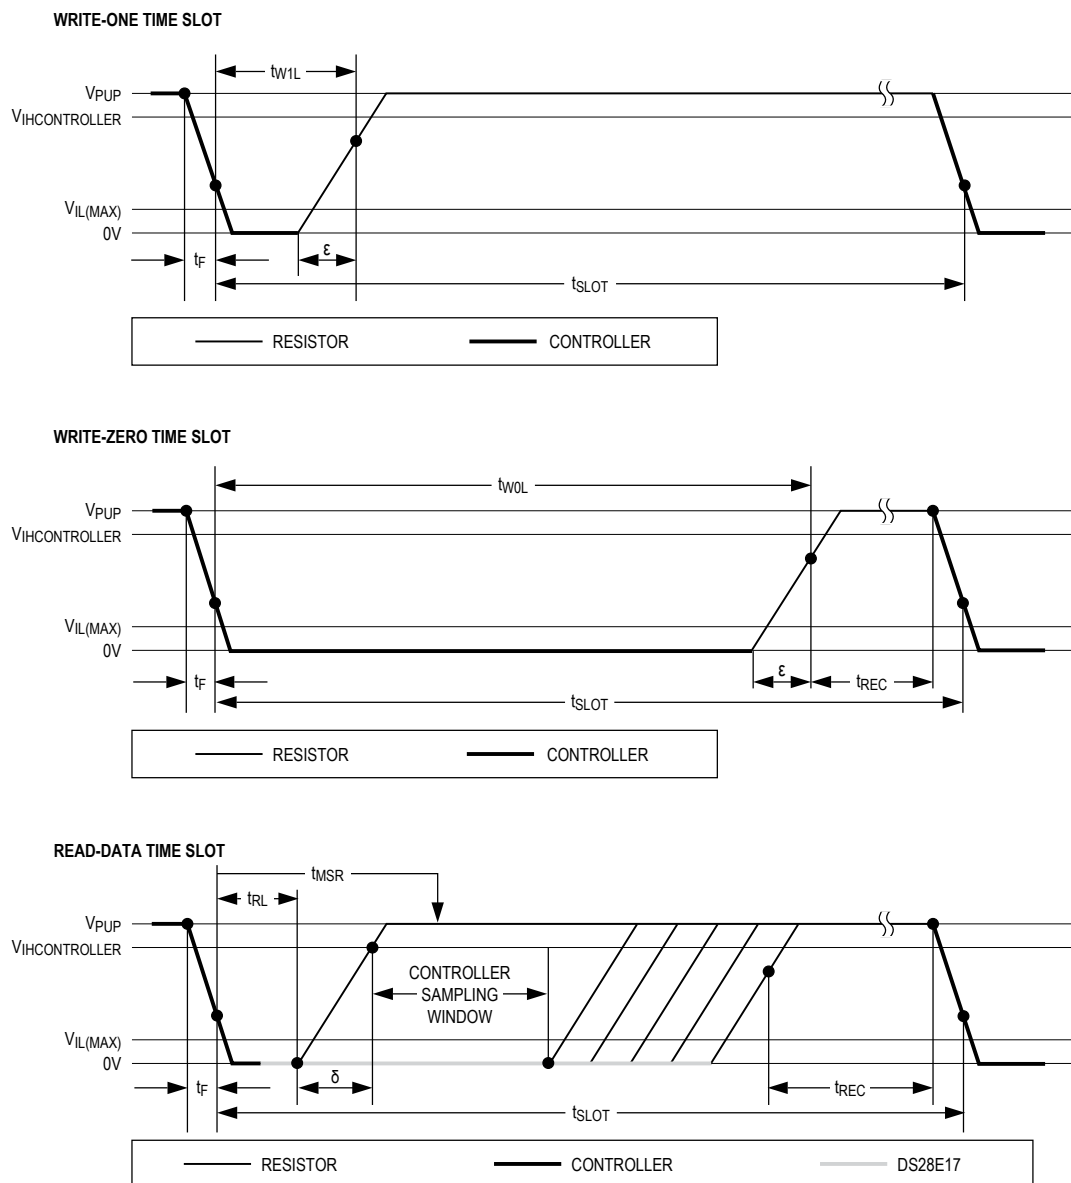

Figure 6. Read/Write Timing Diagrams
**Note 13:** δ in Figure 6 represents the time required for the pullup circuitry to pull the voltage on IO up from VIL to the input-high threshold of the bus controller. The actual maximum duration for the controller to pull the line low is tRLMAX + tF.
Data communication with the DS28E17 takes place in time slots that carry a single bit each. Write time slots transport data from bus controller to peripheral. Read time slots transfer data from peripheral to controller. Figure 6 illustrates the definitions of the write and read time slots.